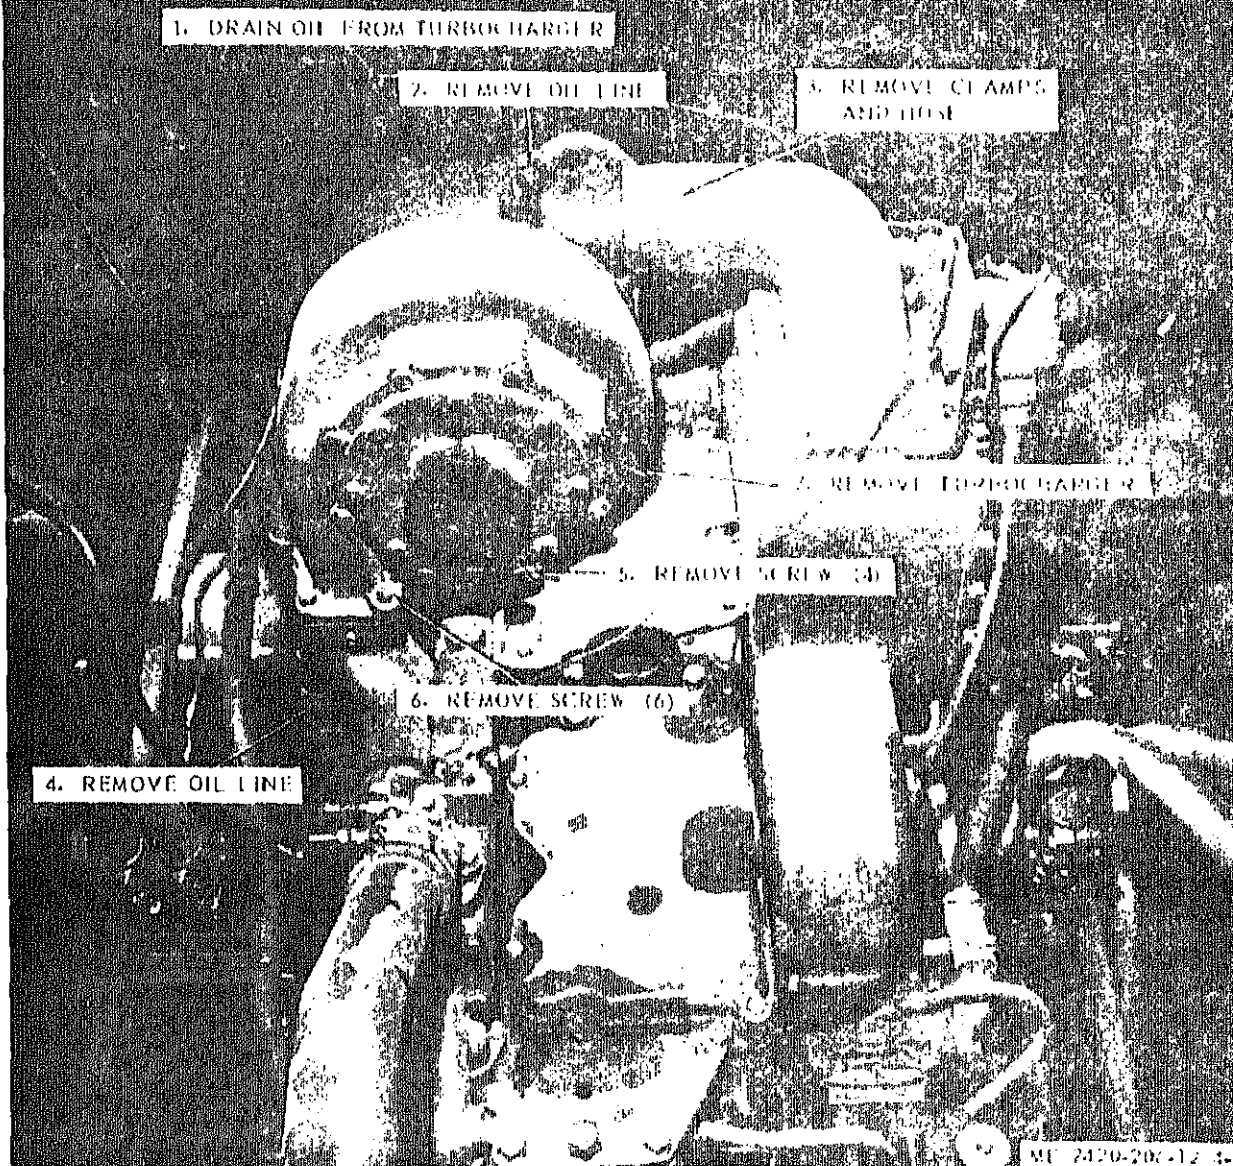

Figure 4-14. Turbocharger, removal and installation.
- (2) Remove turbocharger as illustrated in figure 4-14. Cover exhaust port in manifold to prevent entry of dirt into engine.
- (1) Install turbocharger as illustrated in figure 4-14.